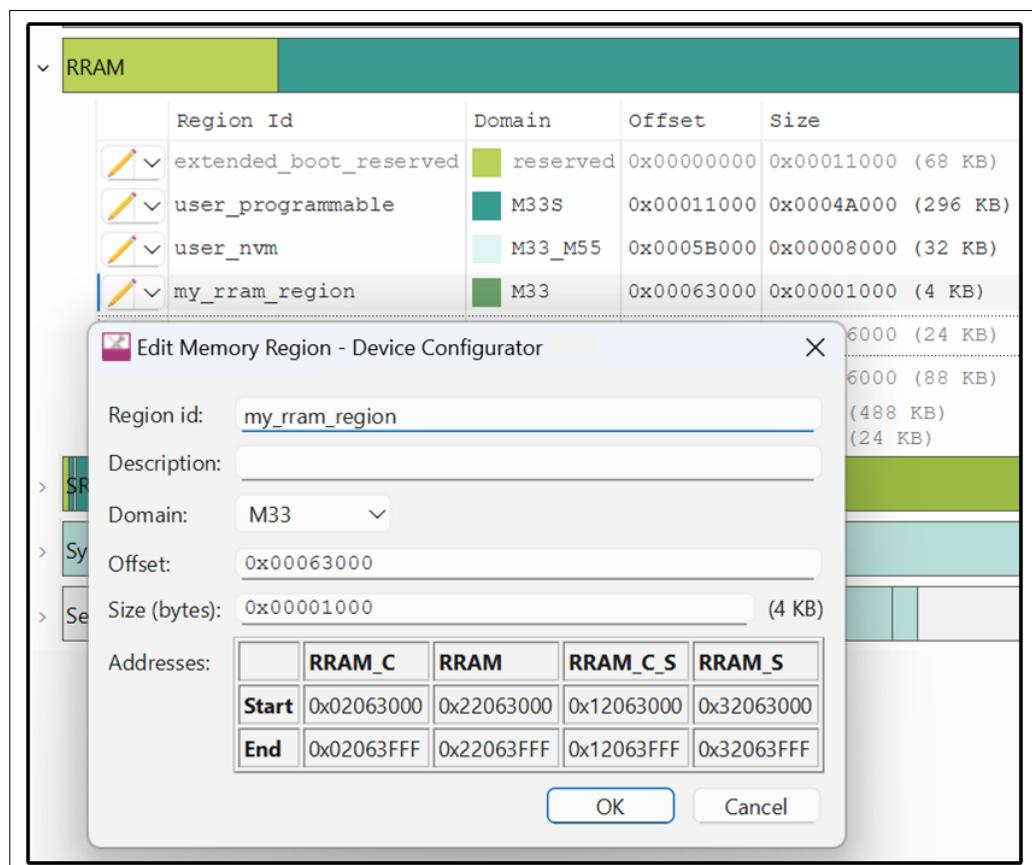

Figure 8
- Open ModusToolbox™ Device Configurator, and select the 'Memory' tab. Under the RRAM memory section, create a new region `my_rram_region`. Select the Domain as M33 and enter the desired offset and size as illustrated in Figure 8.